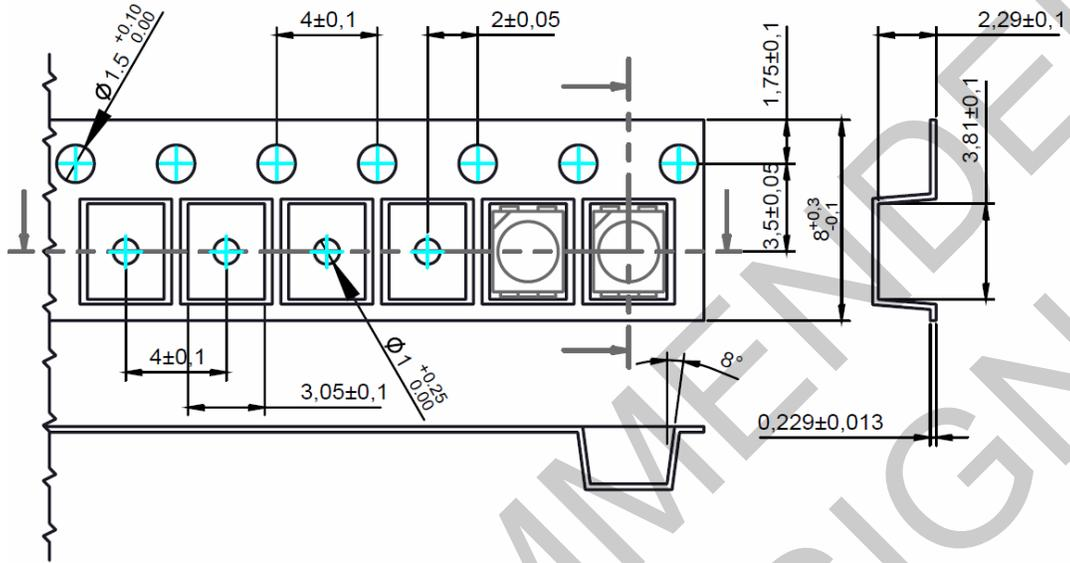

Figure 11. Pocket tape dimensions for SignalSure 150 AM
- Notes for Figures 11 and 12: